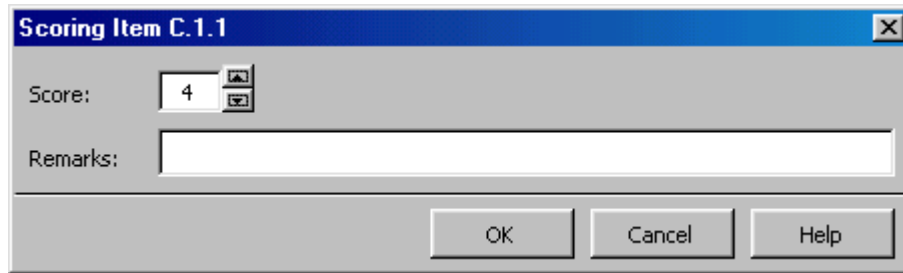

Figure 16. Scoring an item dialog box
- Define the score and give argumentation if necessary as to why you give the item such a score, and then click "OK" (see Figure 16).